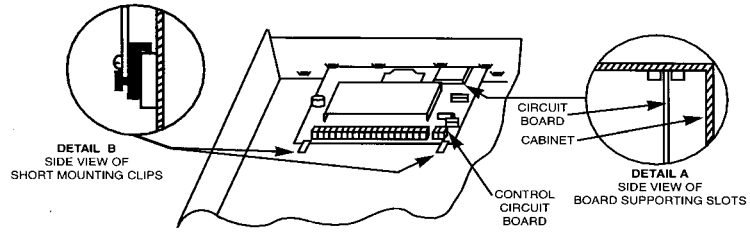

Figure 2. Mounting The PC Board
### Mounting The Control's Circuit Board Alone in The Cabinet (Fig. 2)
1. Hang two short Black mounting clips (provided) on the raised cabinet tabs (see Detail B in Fig. 2).
3. Swing the base of the board into the mounting clips and secure the board to the cabinet with the accompanying screws (see Detail B in Fig. 2).